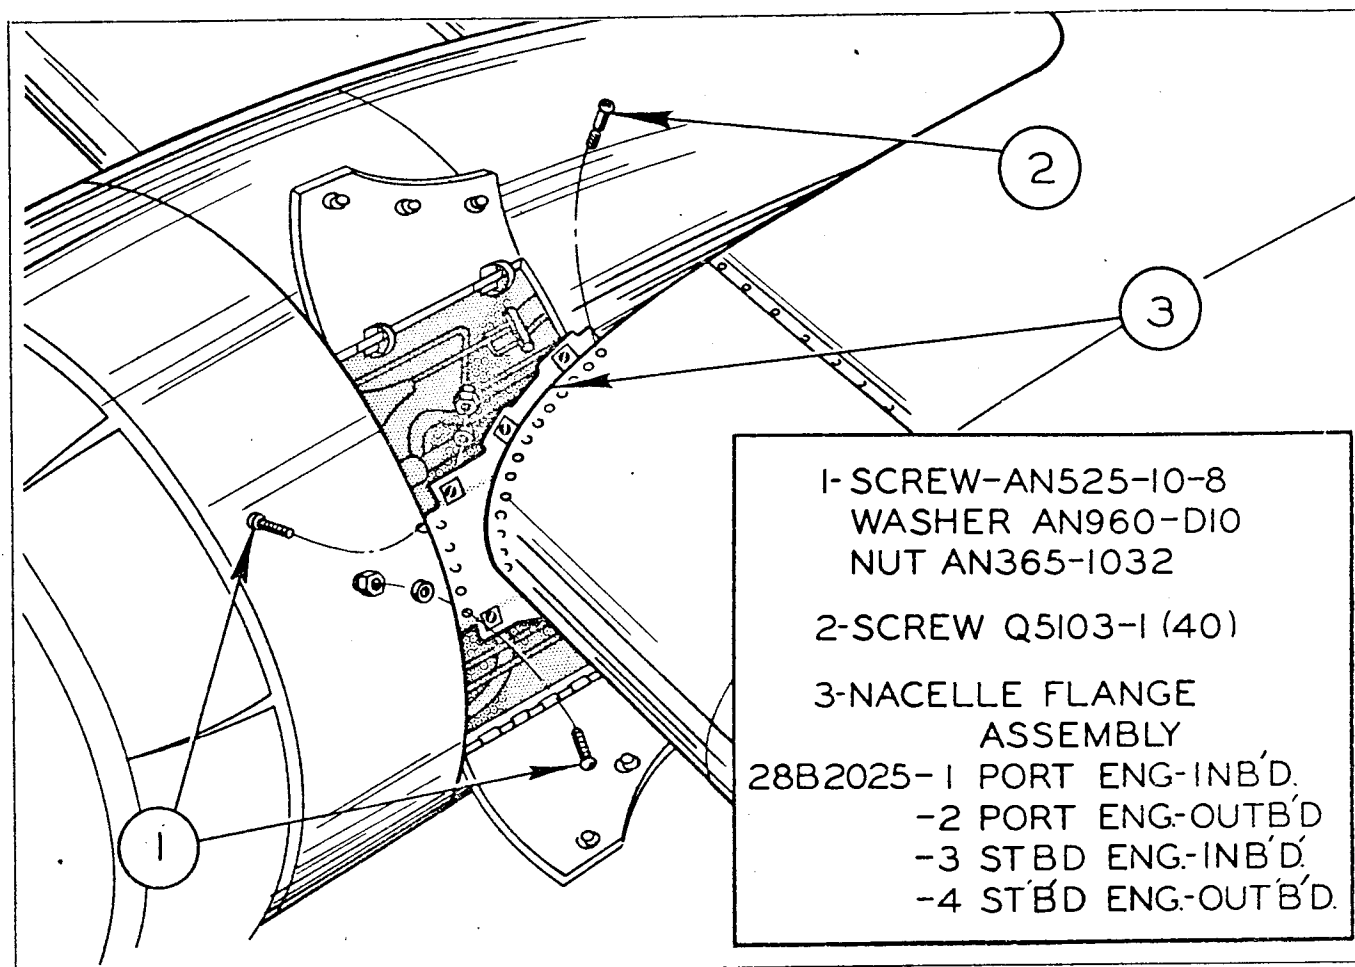

Figure 48—Screw Diagram—Leading Edge—Nacelle Flange Assembly
9. At inboard side of each nacelle, remove screws (1) and (2) and remove flange assembly (3). (See figure 48.)
4. Install nacelle flange assembly (3) at inboard side of each nacelle by putting parts into place and securing with five screws (1). Install screws (2) at attaching flange assembly to leading edge. (See figure 48.)
7. Through access door (10) disconnect landing light flex conduit (9) at front spar, and pull wires through spar into leading edge.
8. Remove outboard nacelle flange assembly. At outboard side of each nacelle, remove screws (1), and (2), and remove flange assembly (3). (See figure 48.)
4. Put outboard flange assembly into place, and install screws (1) and (2). (See figure 48.)